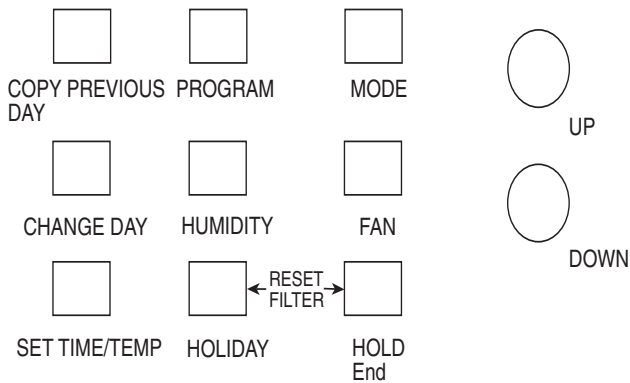

Fig. 15 — Light Commercial Thermidistat Keypad
Step 4 — Set Light Commercial Thermidistat Configuration (Fig. 15 and 16)